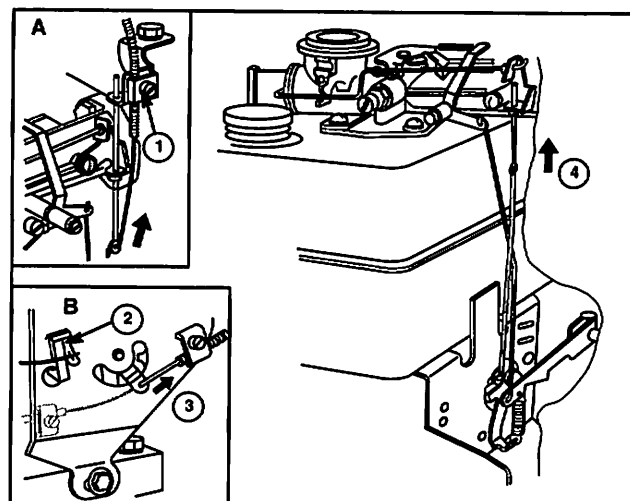

Fig. 57
Choke-A-Matic® remote control mounted on top of engine showing casing clamp (1), (inset A), and direction cable moves to close choke. Choke-A-Matic® remote control (inset B) showing stop switch (2) direction to choke, (3), and movement of linkage to close choke, (4), Fig. 57.